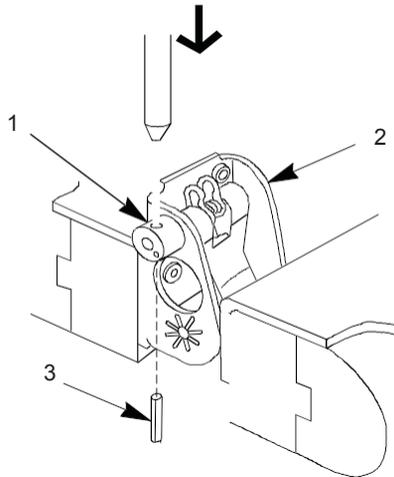

Figure 23. Rear Sight Base, Spring Pin, Windage Knob.
32. Place rear sight base (Figure 23, Item 2) in protective jawed vise. Remove and discard spring pin (Figure 23, Item 3) from windage knob (Figure 23, Item 1).